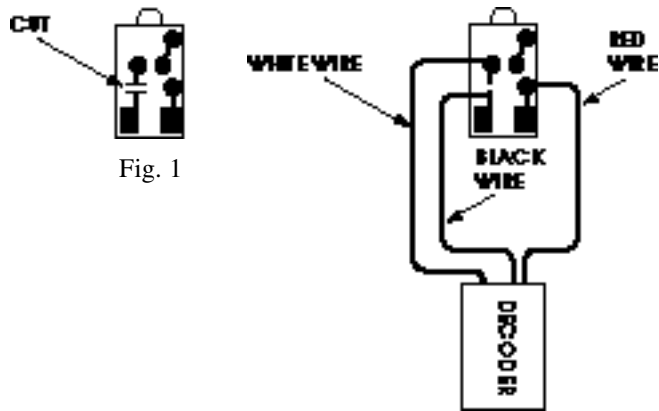

Fig. 2
- Lay the light board out in front of you, parts side down as shown in Fig. 1. With a sharp hobby knife make a cut in the circuit trace as shown (Fig. 1). Attach the BLACK and RED wires as shown (Fig. 2). Solder WHITE wire to front light board as shown (Fig. 2).